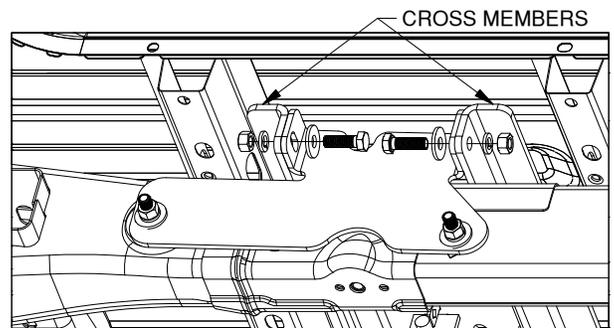

Figure C5: View of driver side wheel well.
- 4. Attach side plates to cross members.** Attach the side plates to the cross members by passing two 1/2" X 1-1/2" cap screws and 1/2" flat washers through the side plate and cross members and securing with 1/2" lock washers and 1/2" finish nuts, as shown in Figure C5. Do not fully tighten at this time. Repeat steps 3 & 4 on the other side of the truck.